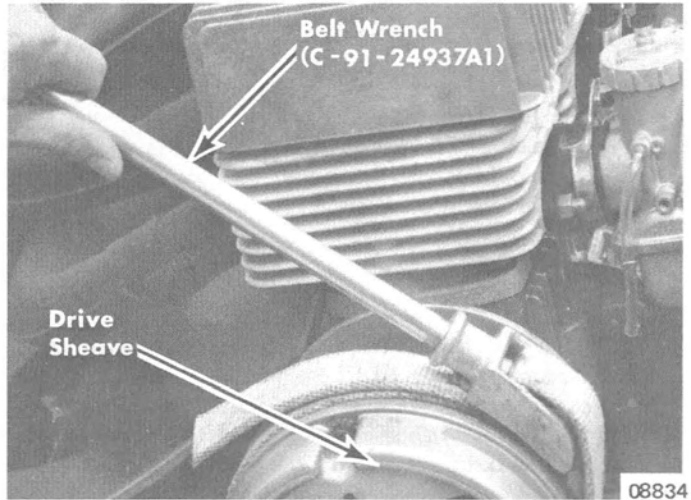

Figure 10. Drive Sheave Removal
4. Hold drive sheave with Belt Wrench and operate Drive Sheave Puller to remove sheave assembly from crankshaft taper. (Figure 10)